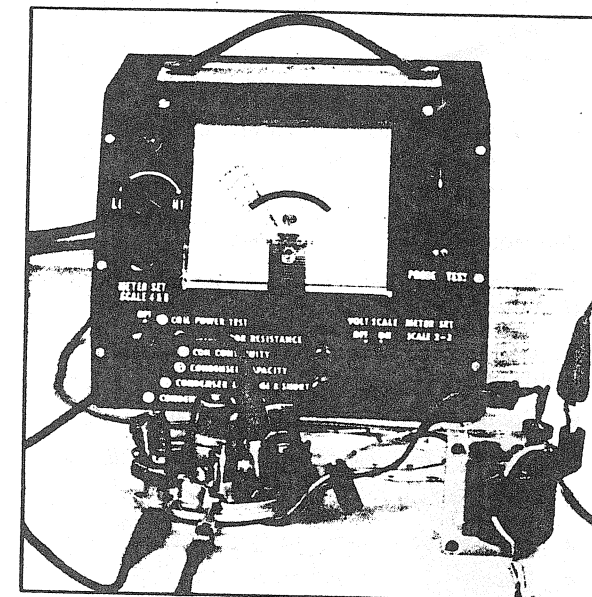

FIGURE 5
- When it reaches the operating amperage for that particular winding, stop and note the 5mm spark gap; it should fire steadily. (Fig. 5).